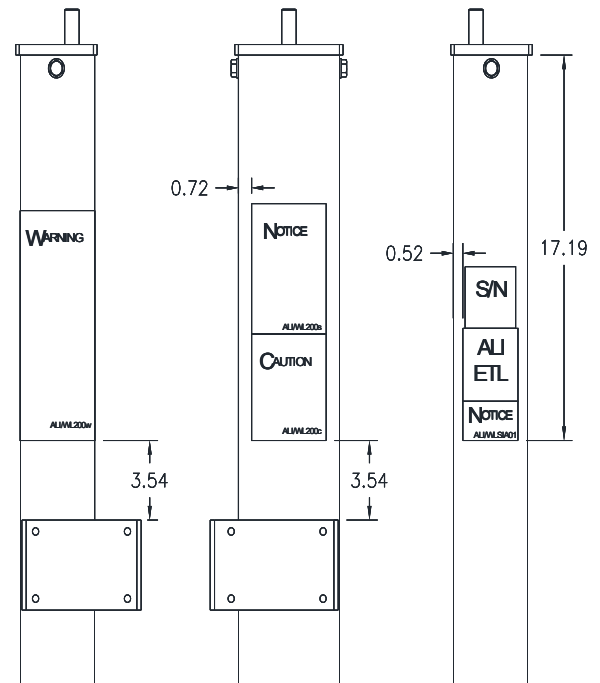

Fig 21 – POWER COLUMN LABEL LOCATION
- 47) Place the Caution, Warning and Safety Instructions decals seen on page 4, on the power column as shown, **Fig 21**.